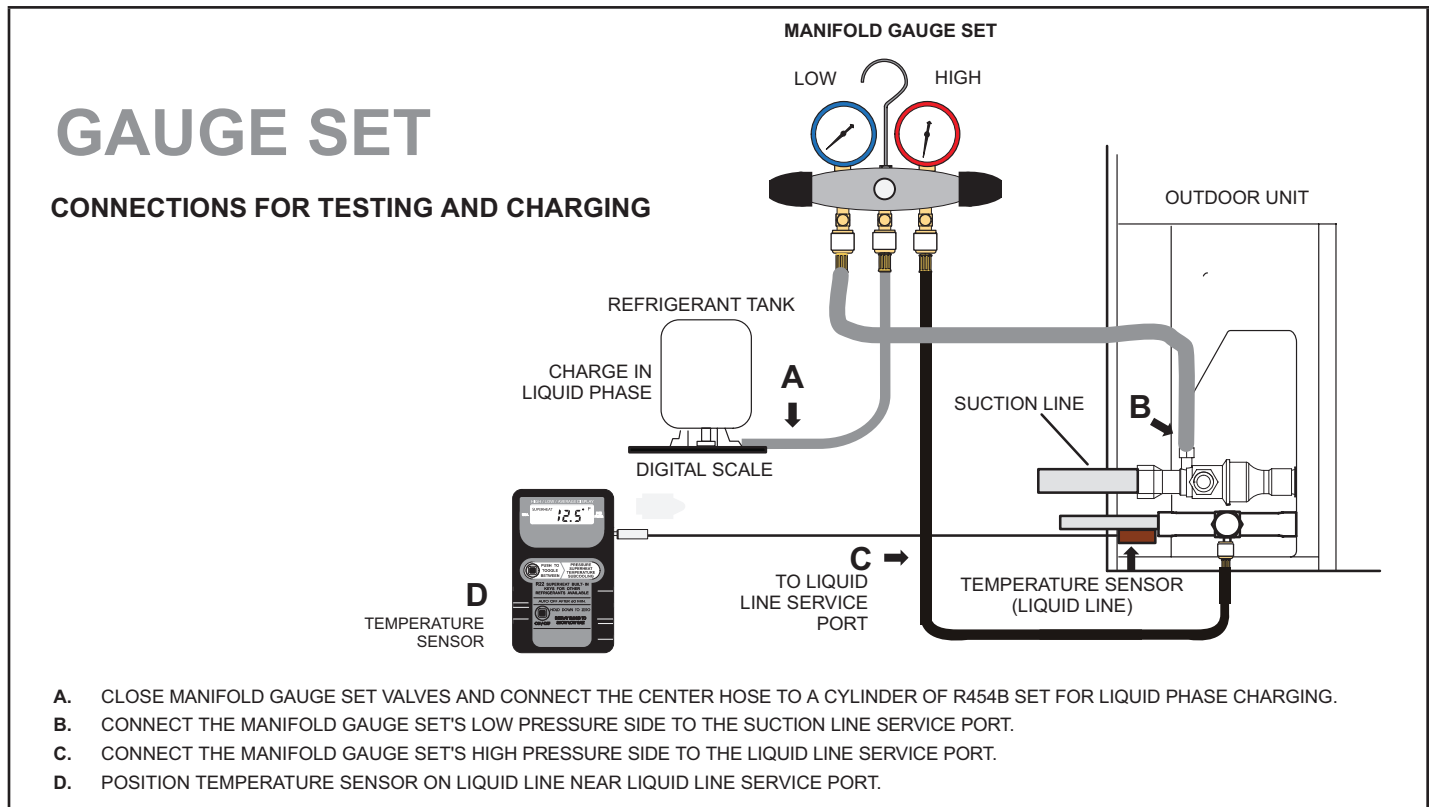

FIGURE 48. Gauge Set Connections
- 1 - Connect a gauge set for testing and charging as illustrated in figure 48.